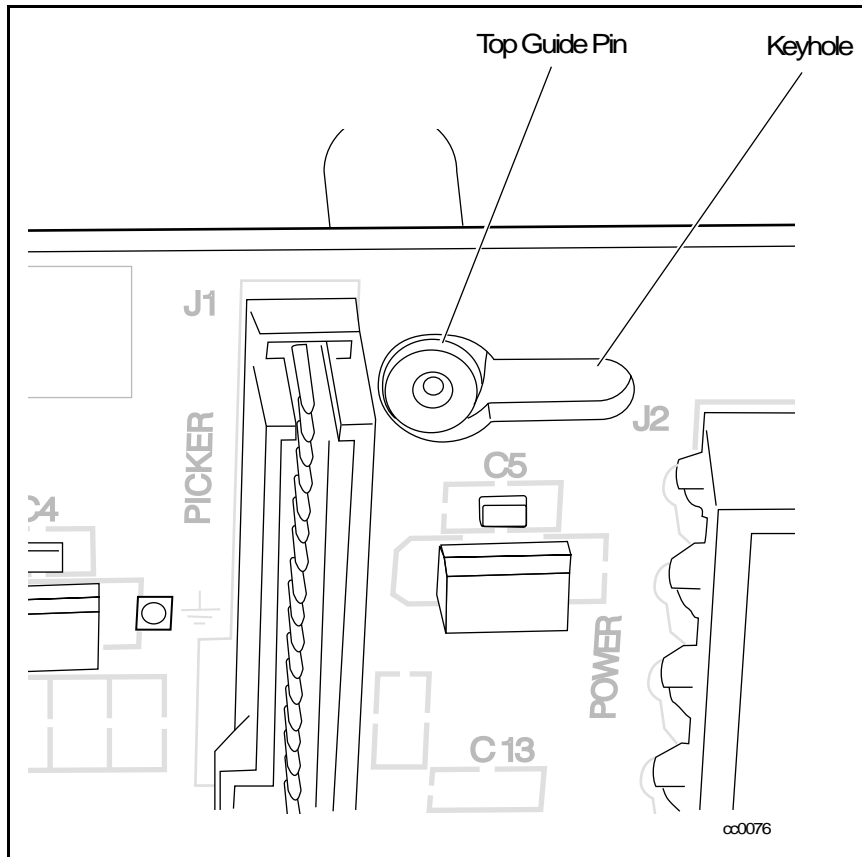
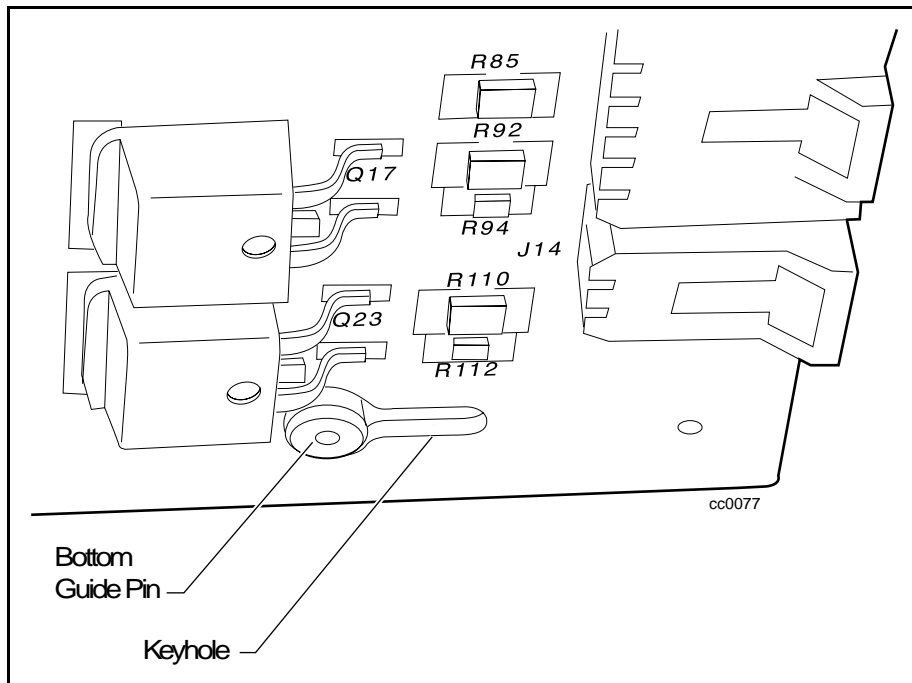

Figure 5-5. Top guide pin and keyhole
Figure 5-6. Bottom guide pin and keyhole
- Slide the controller board toward the front ¼-inch along the three guide pins (see Figure 5-5 and Figure 5-6).
7. Slide the board toward the rear $\frac{1}{4}$ -inch along the pins (see Figure 5-5 and Figure 5-6).